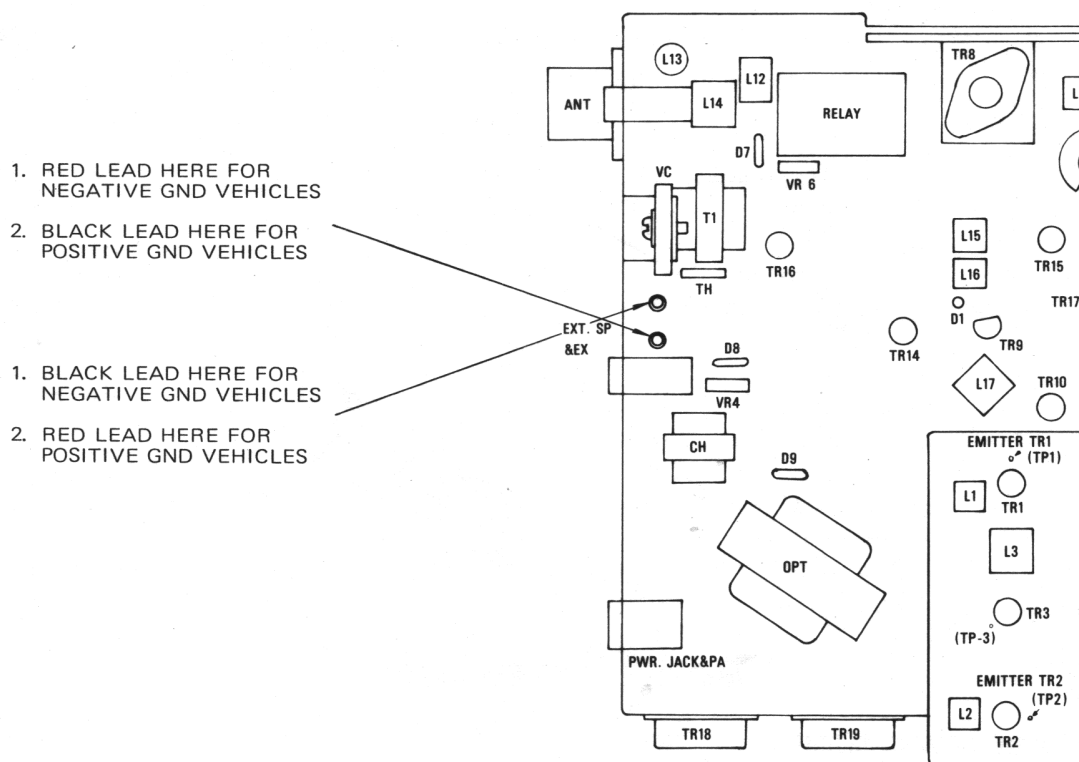

FIGURE 1
4. Refer to Figure 1 which shows the location of the two leads (red and black) which must be interchanged for positive ground operation. Each lead is attached to its terminal by a push-on type lug. To remove, simply pull steadily on the lug. Interchange the two leads as indicated in the diagram and push each lug down over its assigned terminal.